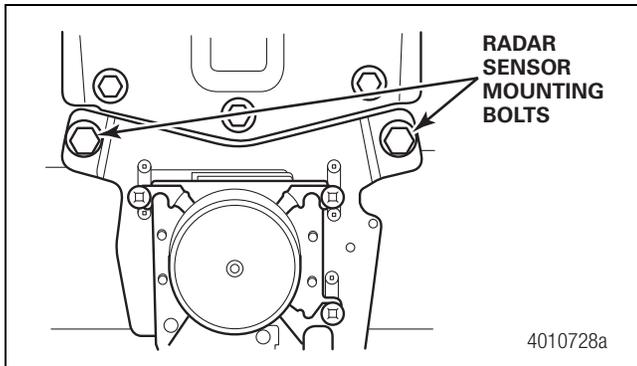

Figure 2
- Remove the two 1/2-inch mounting bolts from the radar sensor bracket and remove the bracket. Figure 2.